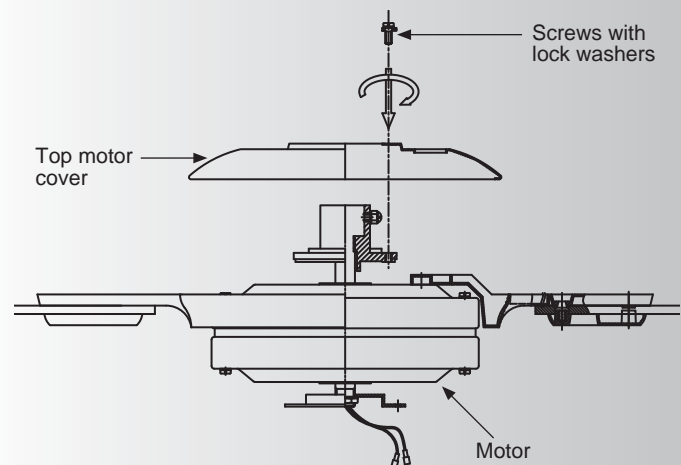

Fig. 7
Step 4. Reinstall the top motor cover to the motor using the six screws and lock washers previously removed. (Fig. 7)